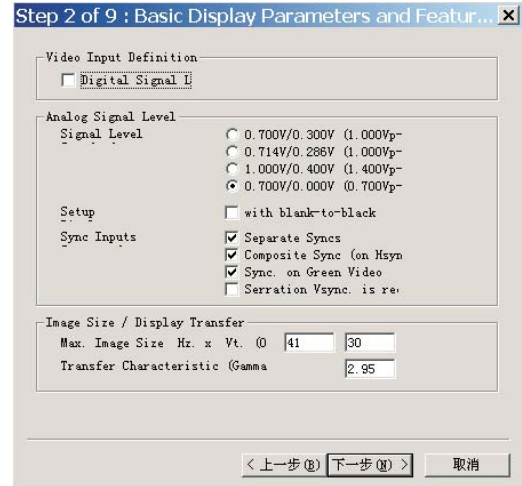

Fig. 14
1. Click Next , bring up Fig. 14.